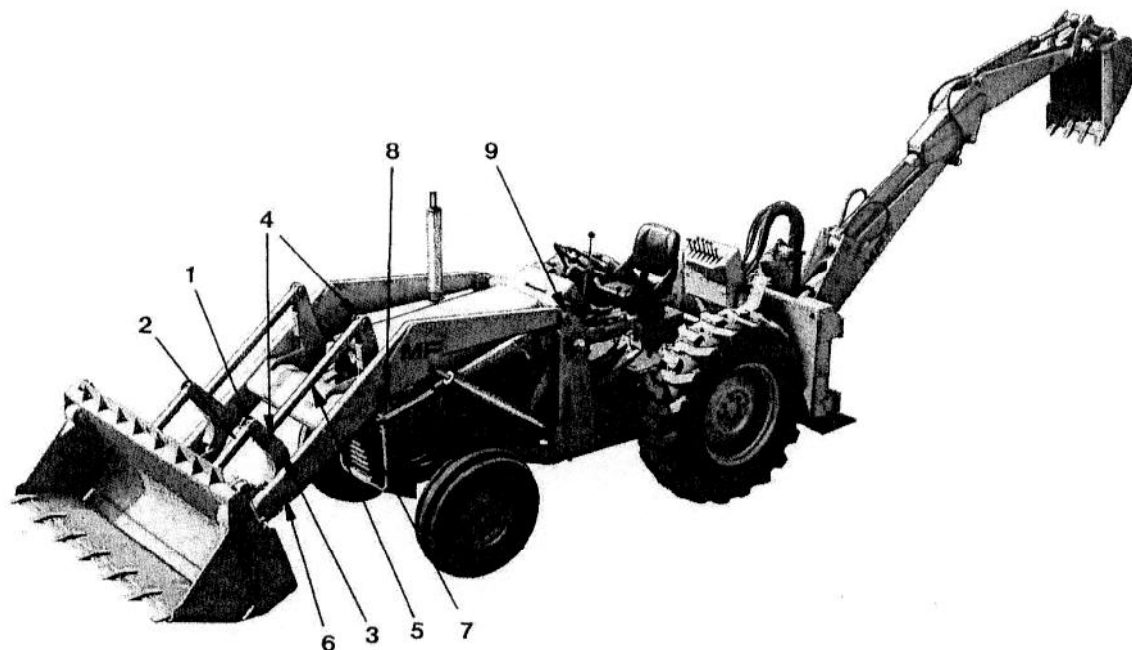

FIG. 1
1. (Fig. 1) Remove the rear panel (1) from the cab.
2. (Fig. 1) Remove the split pins and pivot pins (1) which secure the short transfer arms (2) to the counter arms (3) and remove the transfer arms.
3. Remove the split pins and pivot pins (4) securing the long transfer arms (5) to the counter arms and remove the transfer arms.
4. Remove the split pins and pivot pins (6) which secure the front counter lever (3) to the lift arms and remove the levers.
5. Remove the pivot pins and split pins (7) securing the bucket rams to the counter levers.
6. Remove the split pins and pivot pins (8) securing the rear counter levers to the lift arms and remove the levers.
9. Support the loader lift arms on a suitable gantry and remove the split pins and pivot pins (9) which secure the loader arms to the side frames.